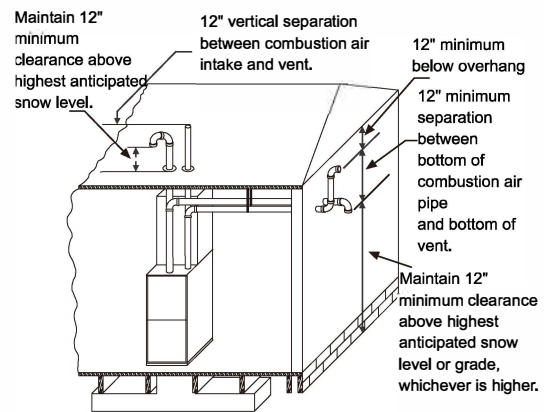
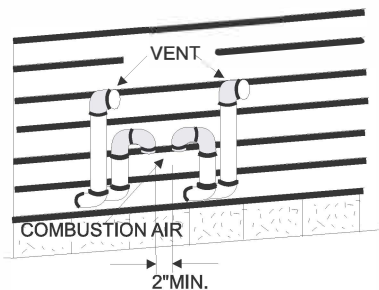

Fig 7-4 Termination Configuration - 2 Pipe
Fig 7-6 Double Horizontal Combustion Air Intake and Vent Termination
7. Direct vent systems must be installed so the vent and the combustion air pipes terminate in the same atmospheric zone. Refer to Figures 7-4 or 7-5.
The combustion air side of the two-pipe configuration shown in Figure 7-4 can be installed so the combustion air pipe terminates as described in outdoor combustion air or ventilated combustion air sections in these instructions. Follow the instructions for outdoor combustion air or ventilated combustion air and the instructions for installing the vent system with the vent terminating as shown in Figures 7-6 or 7-7. The two-pipe system must have a separate combustion air pipe and a separate vent pipe for each furnace.
1. **OUTDOOR COMBUSTION AIR:** This is a direct vent configuration where the combustion air is supplied through a PVC or ABS pipe that is connected to the PVC coupling attached to the furnace and is terminated in the same atmospheric zone as the vent. This type of installation is approved on all models. Refer to Figure 7-6.
2. **AMBIENT COMBUSTION AIR:** Combustion air is supplied from the area surrounding the furnace through openings in the furnace casing. The combustion air and the vent pipes are not terminated in the same atmospheric zone. Refer to Figure 7-4 for vent terminations. Refer to "Ambient Combustion Air Supply" for proper installation. Refer to Fig 7-6.